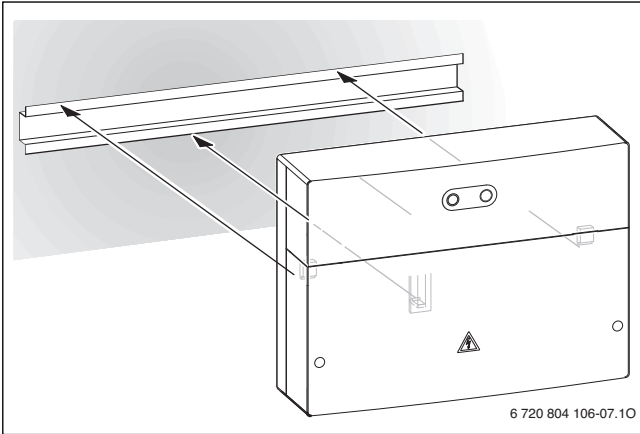

Fig. 7 DIN rail mounting
► Mount the module to a DIN rail (→ fig. 7).